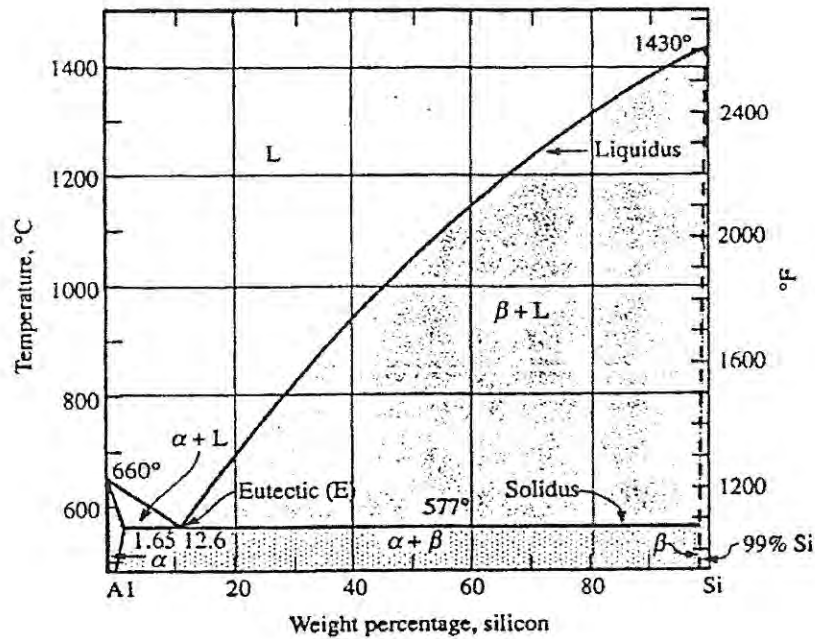

Fig 3. Aluminum – Silicon Phase Diagram
8. (a) Fig 3 shows the Aluminum - Silicon phase diagram. An automobile engine block is cast using a 20% Si - 80% Al alloy. At what temperature will the casting start to solidify? At what temperature is solidification complete? Assuming slow cooling describe the microstructures present at room temperature. How much (if any) of the microstructure will be eutectic?